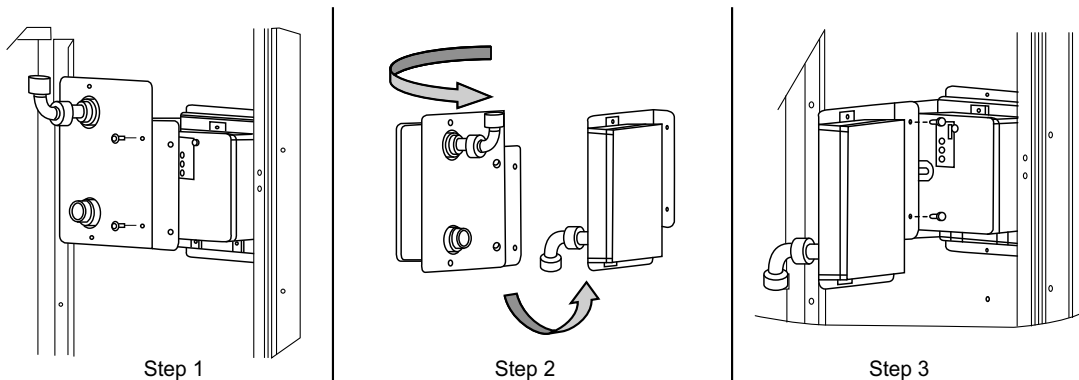

Fig. 62 - Completing Installation of Return Air Smoke Sensor
- Unscrew the two screws holding the Return Air Smoke Detector assembly. See Fig. 62, Step 1. Save the screws.
- Turn the assembly 90 degrees and then rotate end to end. Make sure that the elbow fitting is pointing down. See Fig. 62, Step 2.
- Screw the sensor and detector plate into its operating position using screws from Step 1. See Fig. 62, Step 3.